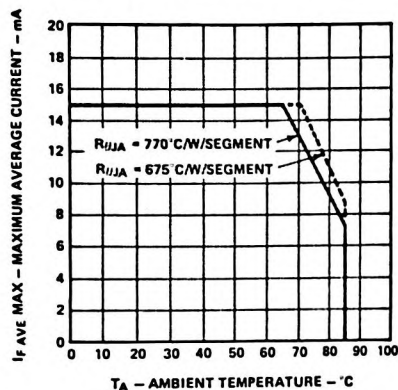

Figure 1. Maximum Allowable Average Current per Segment as a Function of Ambient Temperature
2. Derate maximum average current above $T_A = 65^\circ\text{C}$ at $0.4\text{ mA}/^\circ\text{C}$ per segment, see Figure 1. Derate maximum DC current above $T_A = 78^\circ\text{C}$ at $0.6\text{ mA}/^\circ\text{C}$ per segment.